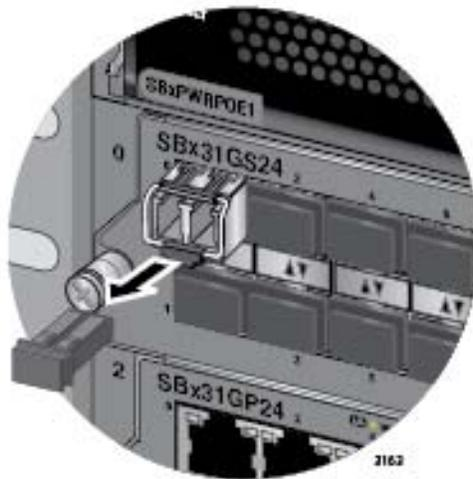

Figure 85. Removing the Dust Cover from the SFP Transceiver in the AT-SBx31GS24 Line Card
- Remove the protective cover from the SFP transceiver, as shown in Figure 85.